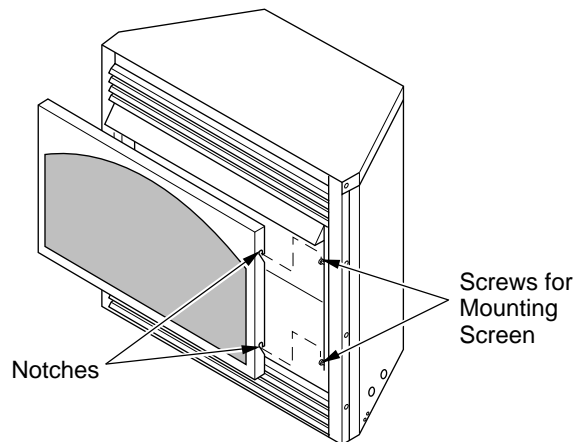

Figure 27 - Installing Fireplace Screen
4. Install fireplace screen by slipping notches of fireplace screen over screws on front of fireplace (see Figure 27).